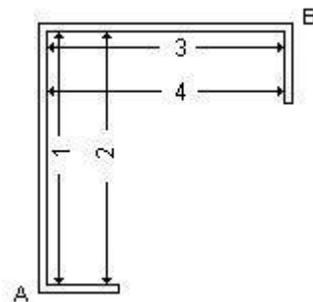

Fig 1
1. Measure wall to wall openings (1,2,3, & 4) as shown in Fig 1.
2. Check the outer corners for square (A, B), Fig 1. Measure the gap between the wall and the framing square, at the back or the front. Apply duct tape to the left end of the countertop. Mark this dimension, either in the front or back. Draw your line for the out of square cut with the Sharpie fine point marker. Do the same for the right side.